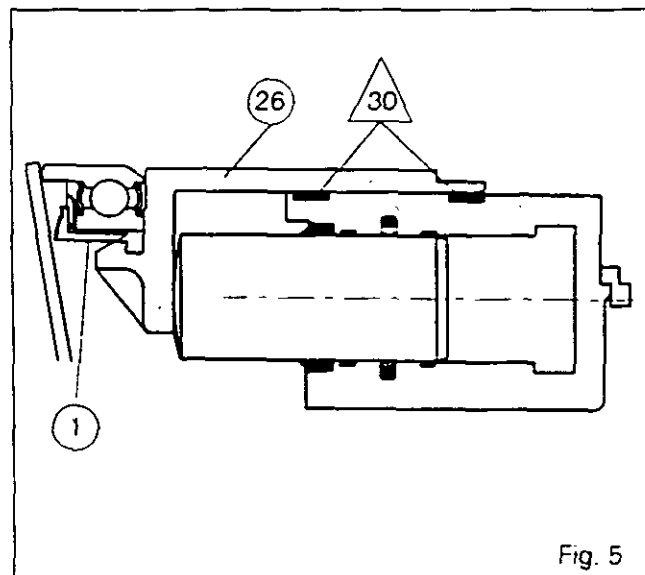
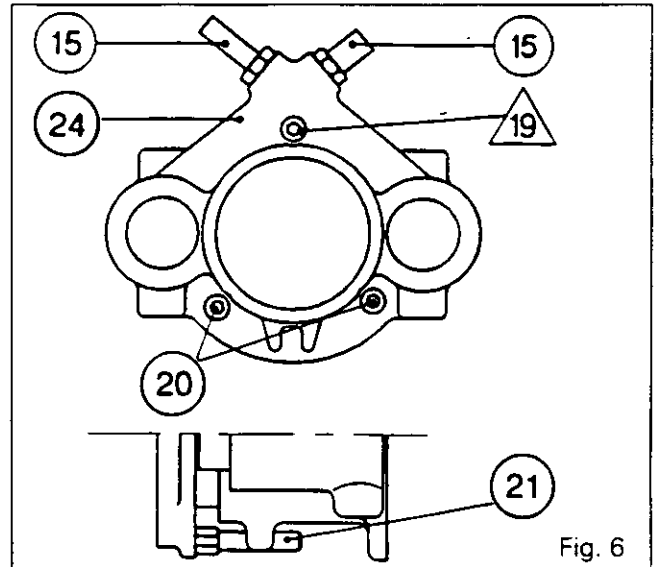

Fig. 5
Fig. 6
1. Separate the release bearing carrier (26) from the slave cylinder (24).
2. Using a screwdriver, press on the lugs (1) (Fig. 5) of the flexible retainer and remove it along with the spring washer and the release bearing.
5. Check that the guide rings /30\ inside the slave cylinder are not damaged (Fig. 5).
1. Disconnect the bleed pipe (13) and the supply pipe (16).
2. Carry out procedure 1 (in part D) and remove the following (as per Fig. 6):
- pin (21) (if necessary)
- bolts /19\ and (20)
- the slave cylinder (24).
3. Remove the unions (15), (if necessary) (Fig. 6).
7. Clean the slave cylinder (24) (Fig. 6) and the seal grooves.
16. If they were dismantled, screw the unions (15) and pin (21) into place (Fig. 6), after coating them with Loctite 241 and tighten them to a torque of 25 - 35 Nm.
17. Shape the guide rings /30\ so as to decrease their diameter by approximately one third. Place the rings in their grooves, with their knurled faces in contact with the release bearing carrier (26) (see Fig. 5).
19. Fit the slave cylinder on the Dynashift cover, inserting spacer (9) between them. Coat the bolts /19\ and (20) with Loctite 241 and tighten them to a torque of 25 - 35 Nm (Fig. 6).
21. Reconnect the pipes (13) and (16).
22. Check that the guide rings /30\ have not been displaced (Fig. 5).
Assemble the release bearing carrier (26) with the slave cylinder (24), positioning the pin (21) in its recess (Fig. 6).